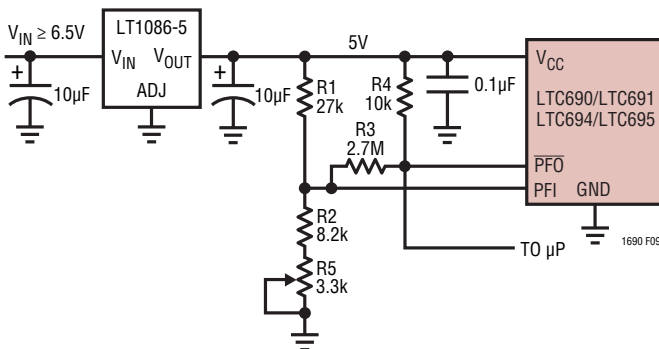

Figure 9. Monitoring Regulated DC Supply with the LTC690's Power-Fail Comparator
**Example 2:** The circuit in Figure 9 can be used to measure the regulated  $5V$  supply to provide early warning of power failure. Because of variations in the PFI threshold, this circuit requires adjustment to ensure the PFI comparator trips before the reset threshold is reached. Adjust  $R5$  such that the  $\overline{\text{PFO}}$  output goes low when the  $V_{\text{CC}}$  supply reaches the desired level (e.g.,  $4.85V$ ).